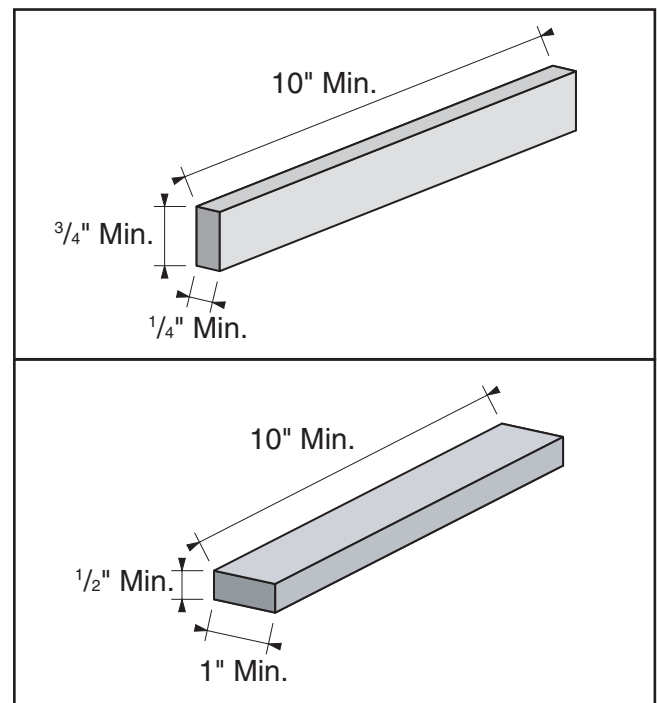

Figure 21. Minimum stock dimensions for jointer.
- **Make sure your workpiece exceeds the minimum dimension requirements, as shown in Figure 21, before processing it through the jointer, or the workpiece may break or kickback during the operation.**